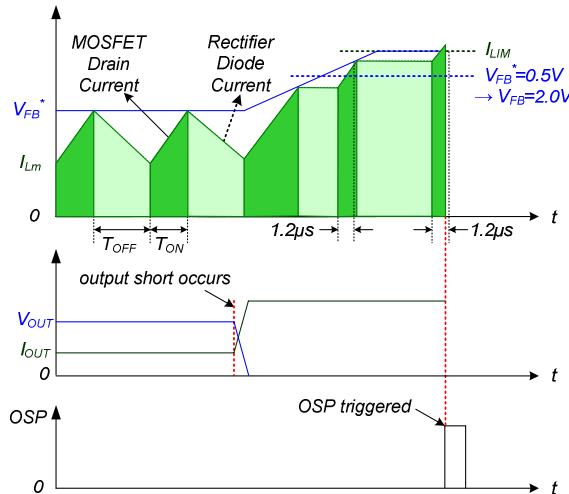

Figure 22. Output-Short Protection
4.3. Output-Short Protection (OSP): If the output is shorted, steep current with extremely high di/dt can flow through the SenseFET during the minimum turn-on time. Such a steep current brings high-voltage stress on the drain of the SenseFET when turned off. To protect the device from this abnormal condition, OSP is included. It is comprised of detecting V_{FB} and SenseFET turn-on time. When the V_{FB} is higher than 2V and the SenseFET turn-on time is lower than $1.2\mu s$, the FSGM0565RB recognizes this condition as an abnormal error and shuts down PWM switching until V_{CC} reaches V_{START} again. An abnormal condition output short is shown in Figure 22.